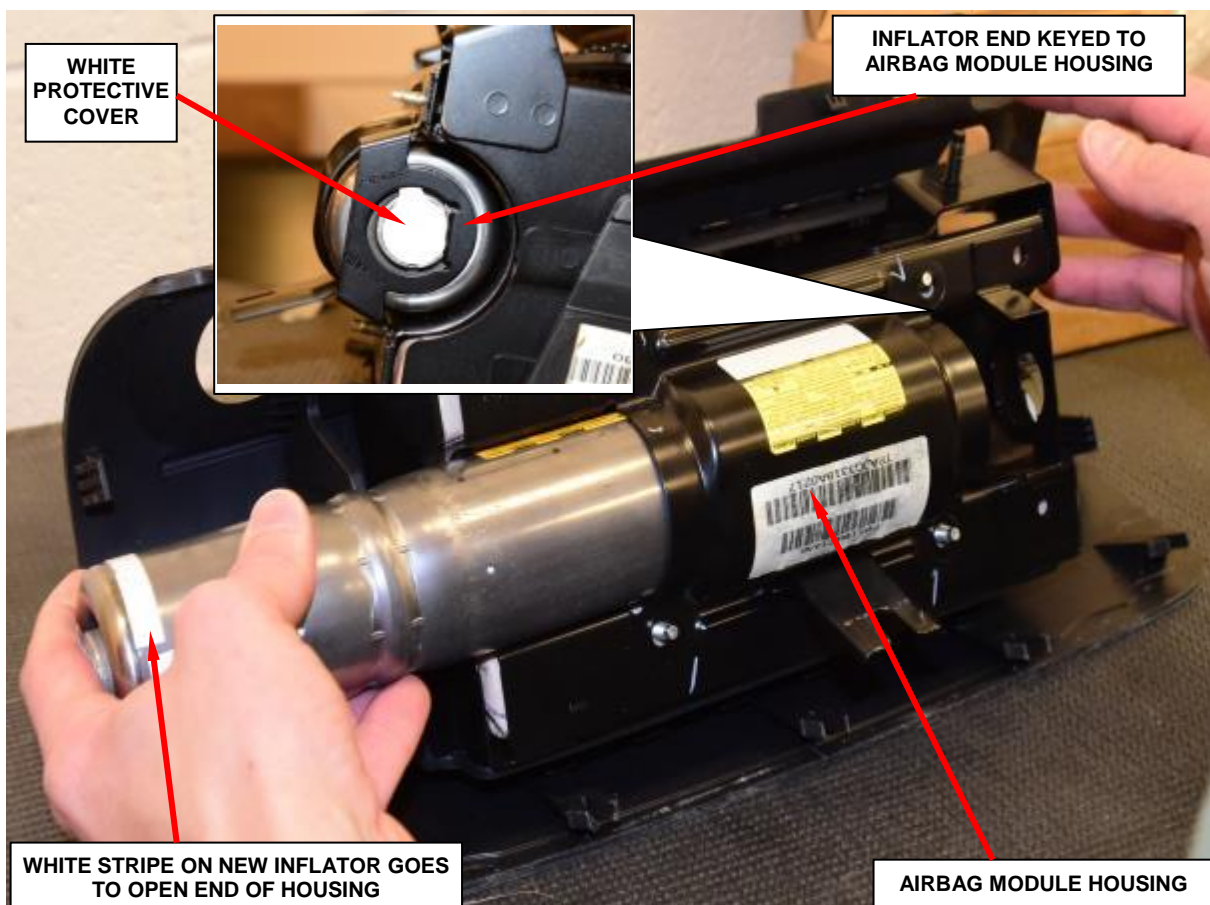

Figure 104 – Inflator Installation
NOTE: The inflator is keyed to fit into the housing. Ensure that when the new inflator is inserted, the keyed end goes in first (Figure 104).
- e. Slide the **NEW** inflator into the passenger airbag module housing. The keyed end is inserted first; therefore the white stripe on the **NEW** inflator will be located at the open end (Figure 104).